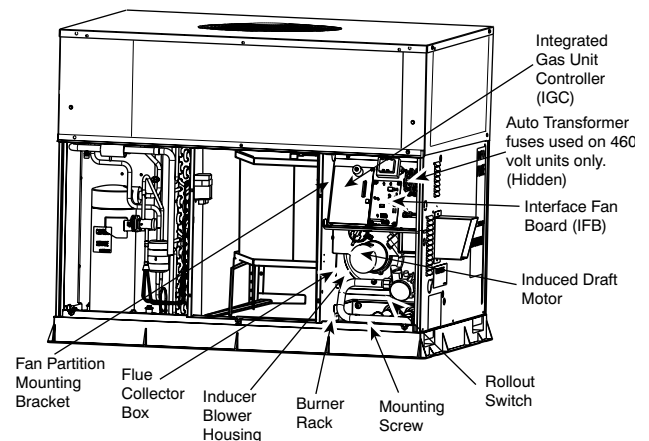
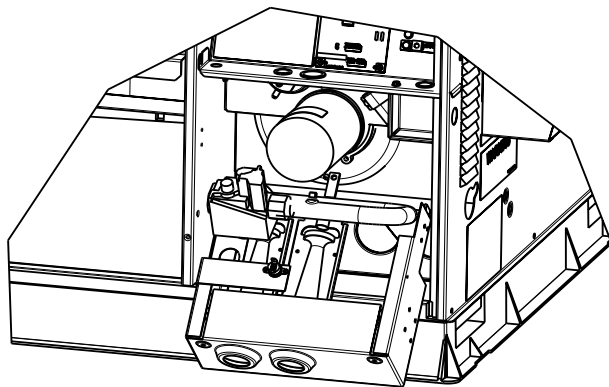

Fig. 21 – Blower Housing and Flue Collector Box
Fig. 24 – Burner Rack Removed
3. Slide the assembly out of the unit. (See Fig. 24). Clean the blower wheel. If additional cleaning is required, continue with Steps 4 and 5.
2. Remove the 11 screws holding the flue collector box cover (See Fig. 21) to the heat exchanger assembly. Inspect the heat exchangers.
5. Remove fan partition mounting bracket (2 screws located on the left side of control compartment on the fan partition panel). Slide bracket forward, bottom first, to remove. (See Fig. 21.)
7. Remove the mounting screw that attaches the burner rack to the unit base (See Fig. 21).
8. Partially slide the burner rack out of the unit (see Fig. 21 and Fig. 24). Remove ignitor and sensor wires at the burner assembly. Remove wires to rollout switch.
9. Slide the burner rack out of the unit (See Fig. 21 and Fig. 24).